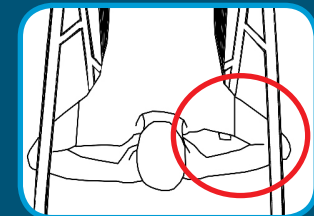

Figure 11
- Keep elbows close to the body while exercising to avoid impact with the Rear Frame (Figure 11). **DO NOT** use weights, elastic bands or any other exercise or stretching device while on the inversion table.
*Keep elbows clear of the Rear Frame when returning upright in order to avoid catching your arm between the Rear Frame and the table bed while the table rotates (Figure 11).*